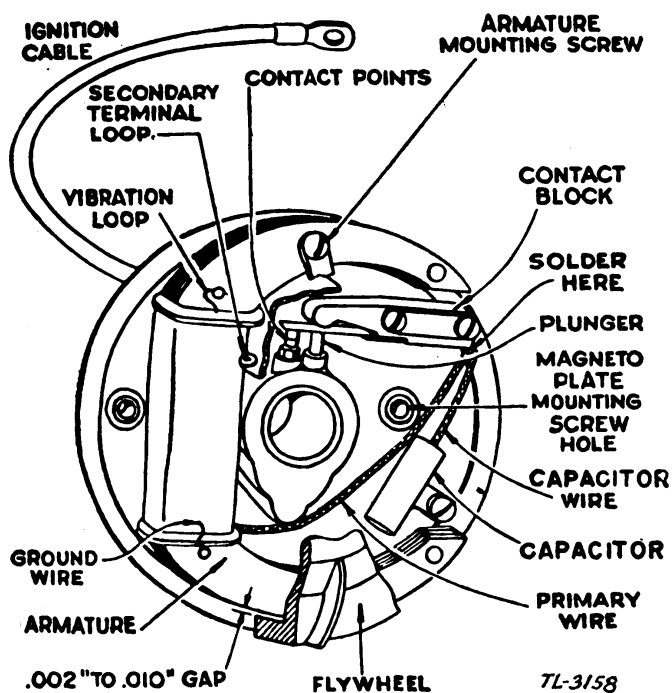

FIGURE 10. Complete magneto assembly.
a. Magneto (fig. 10). (1) The spark is produced by a high-tension magneto consisting of an armature, capacitor, contact points, and rotating magnet contained in the flywheel. The magneto, as well as the spark plug cable and the spark plug, must be in good condition and properly adjusted if the engine is to operate satisfactorily.
(2) To determine whether an adequate spark is being delivered by the magneto, remove the ignition cable from the plug. Hold the ignition cable terminal about $\frac{1}{8}$ inch from any metal part of the cylinder head. (Keep the hand on the insulated part of the cable to avoid a shock.) Turn the motor with the starter cord; if the spark jumps this gap, the
c. Spark plug cable. The insulation on the spark plug cable must be kept free of oil or water, and must not be broken. Any of these conditions may cause a ground connection to the engine and will interfere with the ignition. Solder the spark plug cable to the secondary terminal (a small brass plate coming out of the coil). Avoid touching the coil with the hot soldering iron (fig. 10). The cable is shielded to prevent radio interference.
c. Removing and replacing armature (fig. 10). (1) Remove the armature lead wire from the contact spring, and the high-tension ignition cable from the secondary terminal loop in the armature. (Both of these wires are soldered.) Save as much of the hydrolene as possible, so that the high-tension terminal can be insulated when the new armature is assembled. Do not use battery compound or tar, since either of these substances will melt and run over the entire magneto assembly. Unscrew the two armature mounting screws, and pry the armature loose with a screw driver.